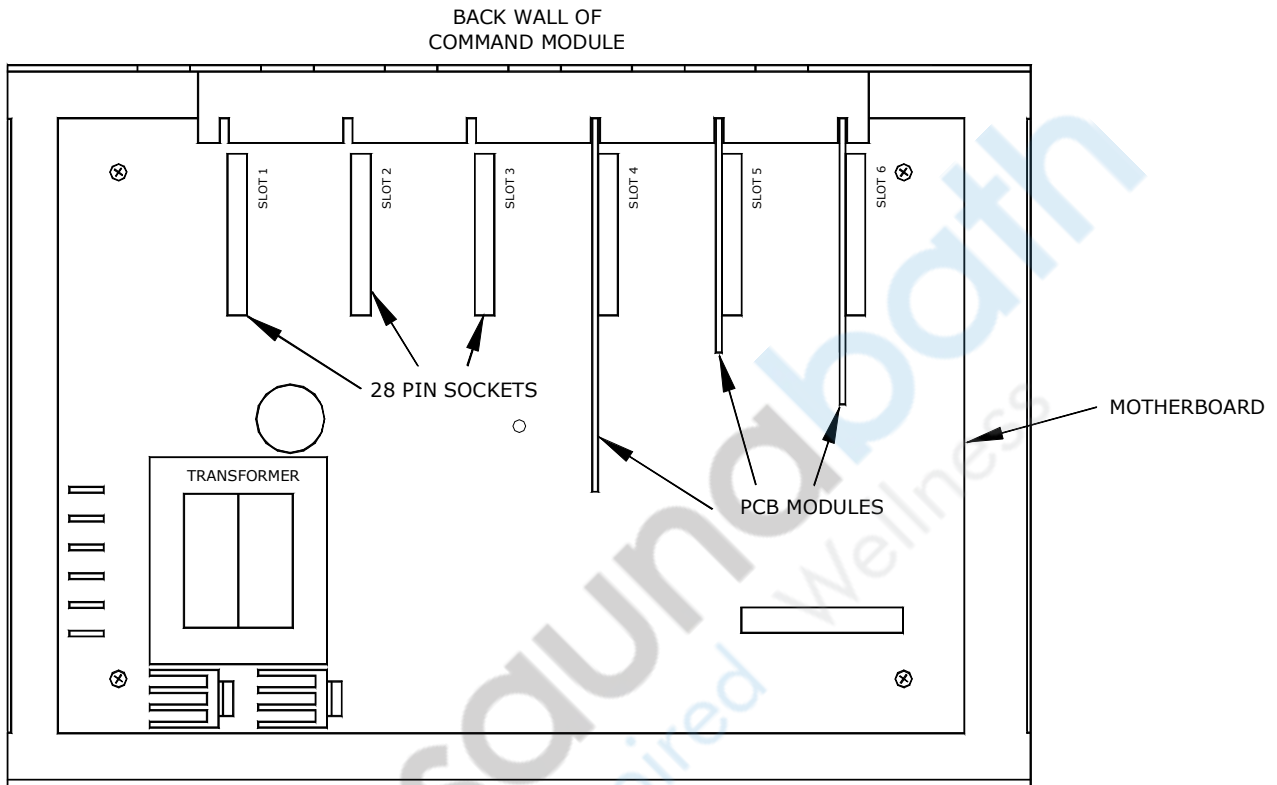

FIG.3 Command Module with top cover removed to install PCB Modules.
6. **BEFORE CONNECTING POWER** to the Command Module, install the CD Changer PCB Module, Moodlight PCB Module and Phone PCB Module in the slots on the motherboard in the *(options ordered will determine which boards you will be required to install)*. Each module can be installed in any of the slots along the back wall of the motherboard as long as the PCB Module will fit. **VERY IMPORTANT:** All the pins of the PCB Modules **MUST** line up properly with every socket on the motherboard slot or the system will be **DAMAGED** (see **FIG. 3**).